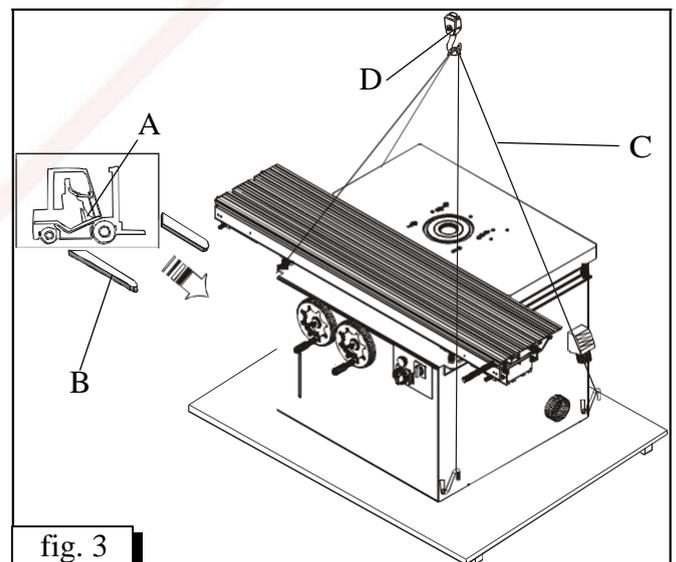

fig. 3
- The fork B should be brought under the machine in a way as presented in fig. 3.